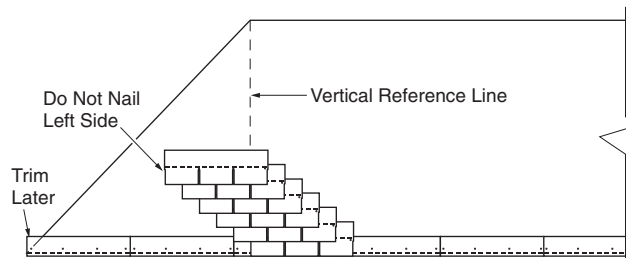

Figure 9-3: Section 1-A
2. Apply the first shingle of each course above the first course by overlapping the reference line by the required amount as directed by the application instructions for the product. **DO NOT** nail the left end of these shingles at this time. (There will be a total of four or six courses per diagonal section depending on the product being installed.) (See Figure 9-3).